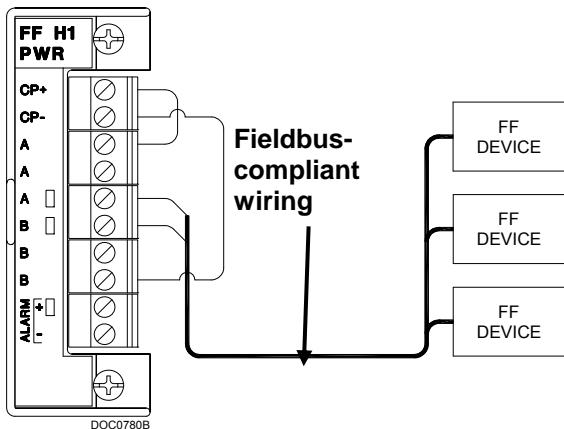
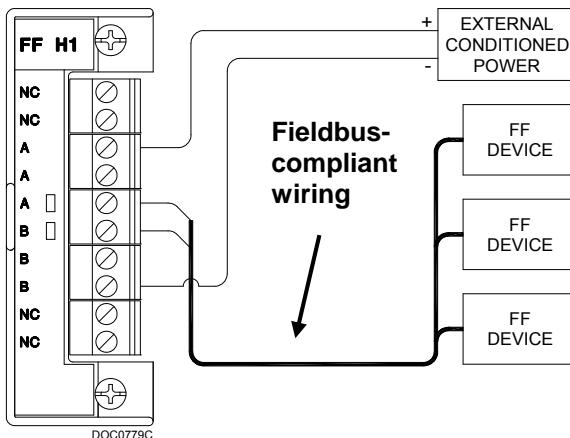

Figure 5. Field Wiring for Powered H1 Module
Figure 6. Field Wiring for Unpowered H1 Module
3. Tighten the screw. See *Figure 5* or *Figure 6*.
The FFI supports up to four of either of two kinds of H1 segment modules. Powered modules (see *Figure 5*) provide up to 125 mA of conditioned power.
Use unpowered H1 modules and an external fieldbus-approved conditioned power supply (see *Figure 6*) when you are uncertain about the power draw or the number of fieldbus devices.